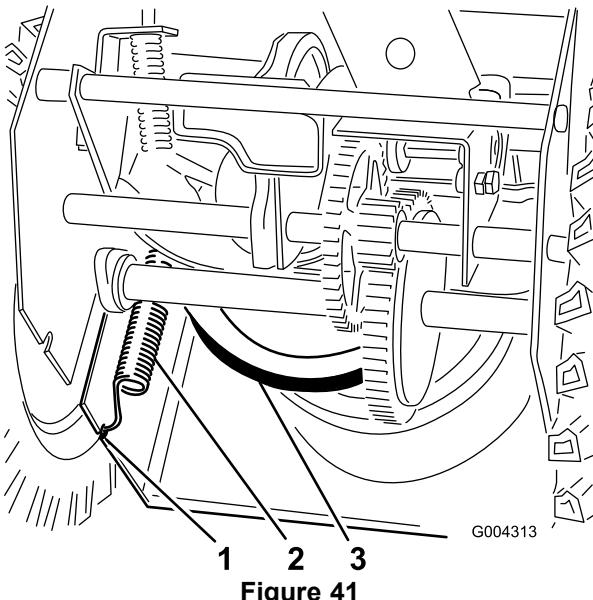

Figure 41
7. Disconnect the spring from the notch in the bottom edge of the side plate (Figure 41).
13. Hook the spring into the notch in the bottom edge of the side plate (Figure 41).